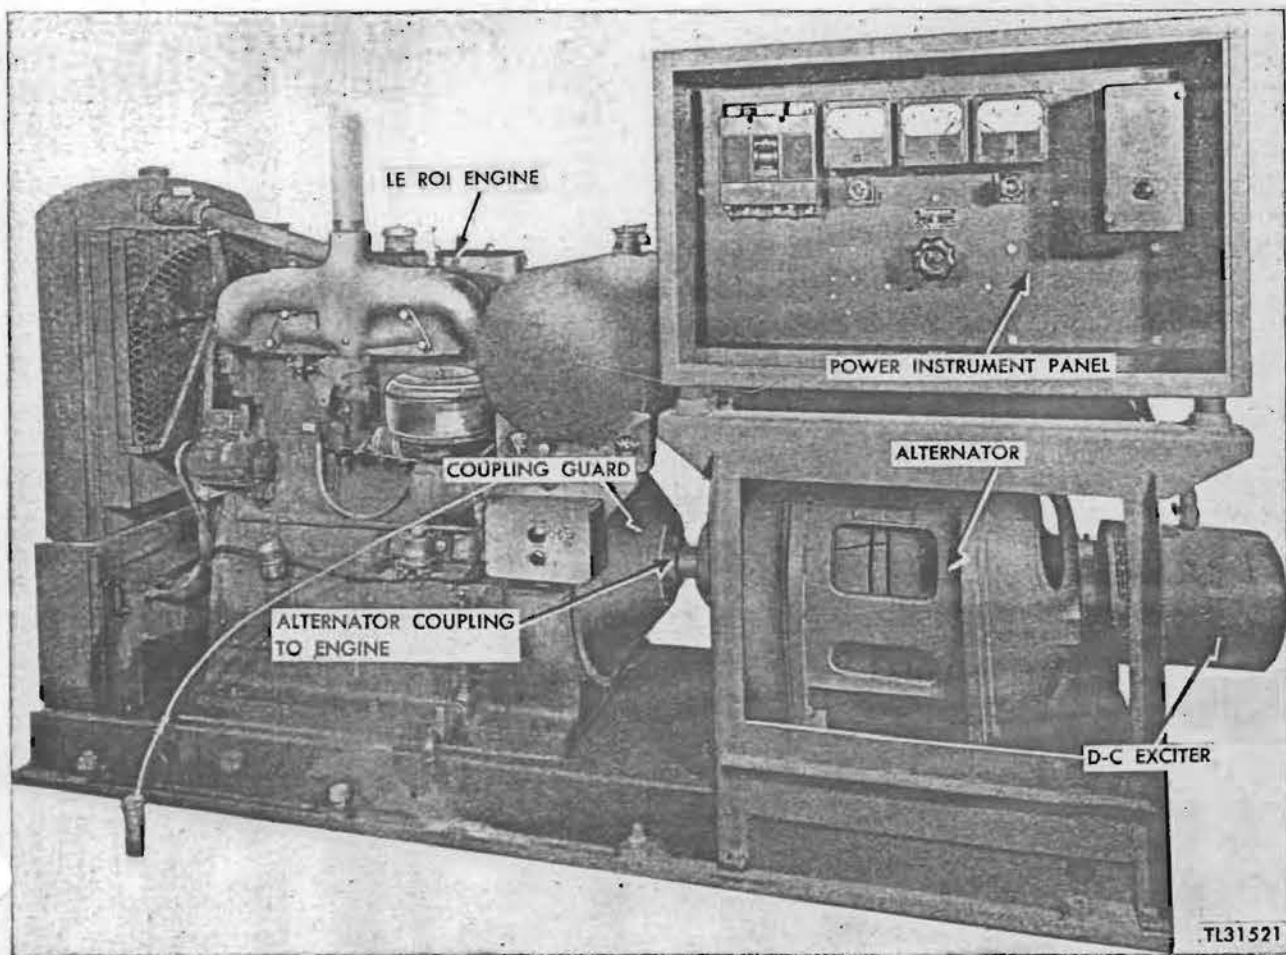

Figure 163. Power unit.
a. SAFETY PRECAUTIONS. Before cleaning the engine allow sufficient time for it to cool. (See item 102.)
b. LOCATION (fig. 163).
c. MAINTENANCE PROCEDURE; PREPARATORY STEPS. (1) Remove battery plate and disconnect the battery terminal.
(2) Connect the air blower.
b. LOCATION. The coupling connects the engine and the alternator. (See fig. 163.)
b. LOCATION. The alternator is mounted directly behind the engine. (See fig. 163.)
c. MAINTENANCE PROCEDURE; PREPARATORY STEPS. (1) Remove the end plate. Three screws fasten the end plate to the frame of the exciter.
(2) Whenever the slip rings require cleaning, keep the engine running at low speed.
(3) Set the field rheostat to minimum position to reduce voltage (full clockwise direction).
(4) Open (OFF position) the main circuit breaker.
a. LOCATION. The power instrument panel is located directly above the generator as shown in figure 163.
b. MAINTENANCE PROCEDURE; PREPARATORY STEPS. (1) Remove the two knurled nuts holding the silverstat cover.
(2) Remove the rear panel, which is fastened to the instrument control box by six screws.